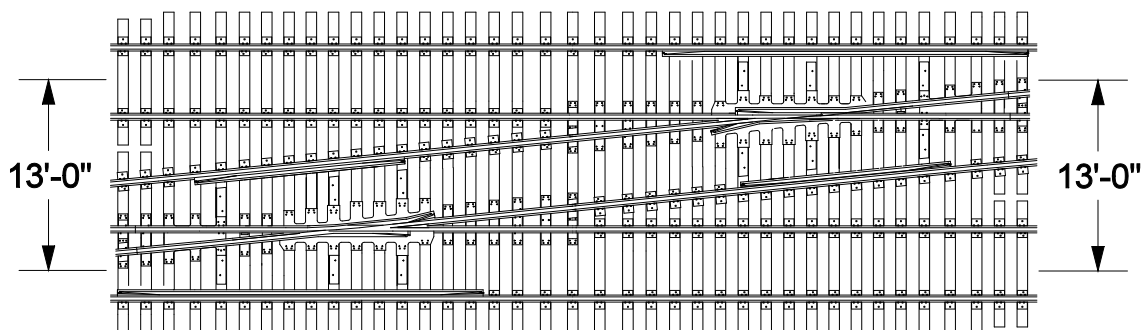

Figure 2.4.3-A
- Spike the ties to the same track center measurement as the track they connect. An example is shown in Figure 2.4.3-A.
- Align the tracks approaching the crossover switch to the same track center measurement as the last long switch tie on each end of the crossover, as shown in Figure 2.4.3-A.